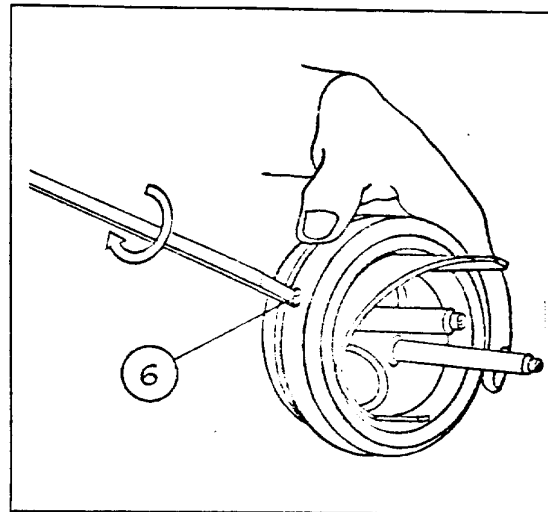

Fig. 48
- 10) Remove the connecting pin (6) from the zooming ring (5) (Fig. 48).